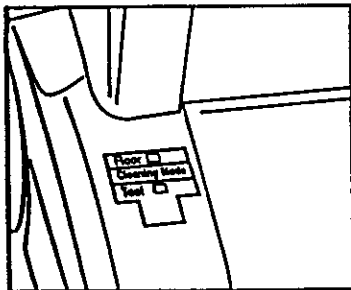

Fig. 2
- Tool/floor mode indicator Fig. 2